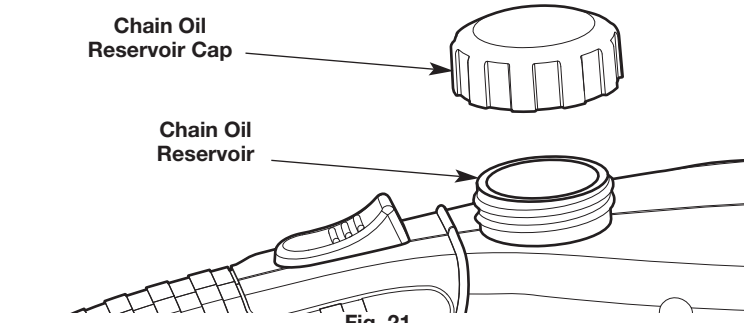

Fig. 21
3. Unscrew the chain oil reservoir cap (Fig. 21).